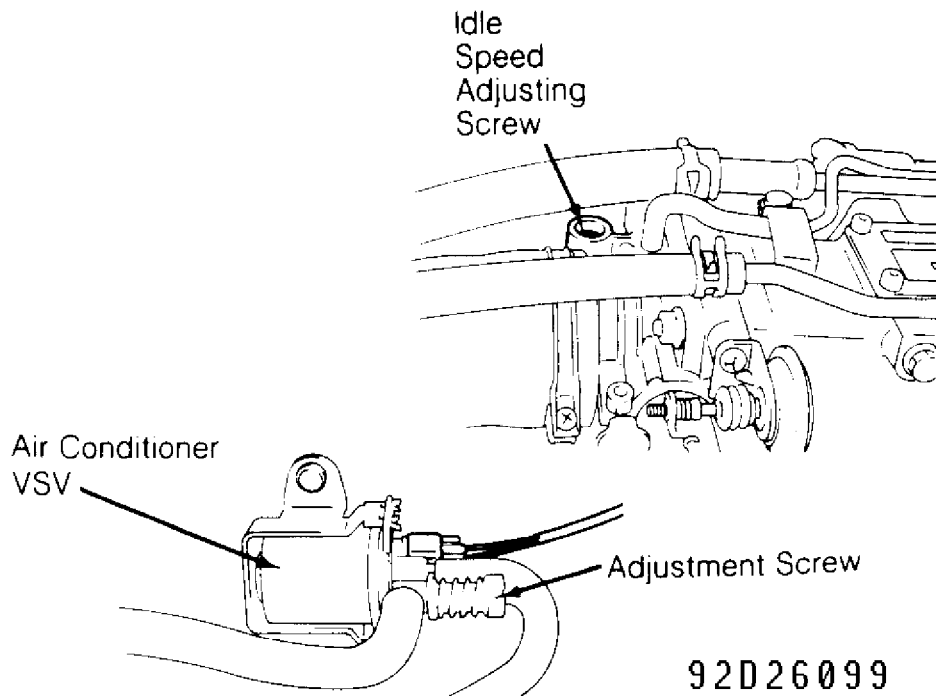

Fig. 7: Identifying Typical Idle Adjustment System (Swift)
3) On vehicles equipped with A/C, turn A/C switch to ON position and set fan switch to HIGH position. With A/C operating correctly, verify idle speed is 850-950 RPM. If adjustment is required, turn A/C Vacuum Switching Valve (VSV) adjusting screw as necessary. See Fig. 7. See IDLE SPEED SPECIFICATIONS table. Remove service wire, reinstall protective cap to throttle body and recheck idle speed.
table under IGNITION TIMING. Connect terminal "B" (diagnosis switch) to terminal "D" (ground) using a service wire. See Fig. 3. MIL (CHECK ENGINE light) should indicate Code 12. Attach duty meter to duty output terminal "F" and ground terminal "D". Remove idle speed adjusting screw protective cap from top of throttle body. See Fig. 7. Turn idle speed adjusting screw to obtain correct idle RPM. See IDLE SPEED SPECIFICATIONS and IAC DUTY AT SPECIFIED IDLE SPEED tables.